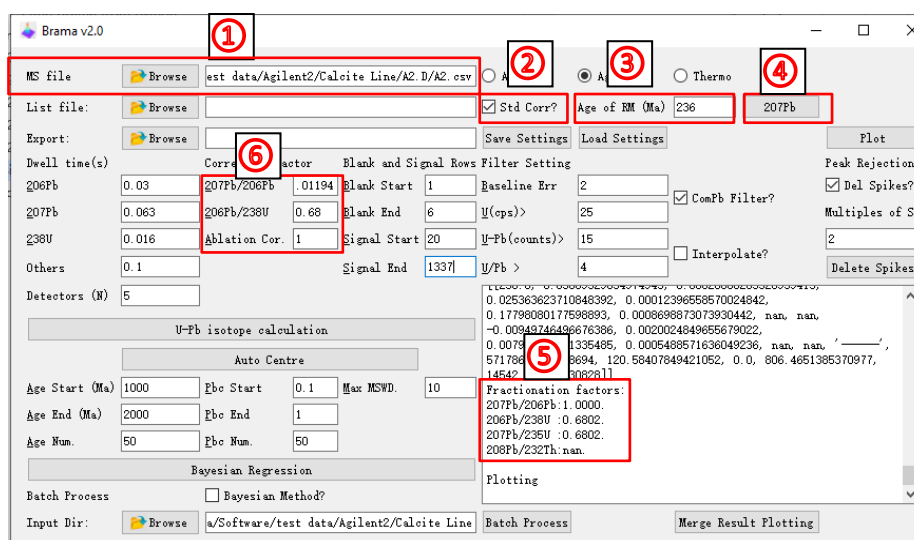

Fig. 1-10 Calculation steps of standard bias fraction factor for $^{206}\text{Pb}/^{238}\text{U}$
$^{206}\text{Pb}/^{238}\text{U}$ fraction factor: As Fig.1-10 shown, ①Import the “A2.scv” (AHX) file according to step 1.3.2. ②Check the **Std Corr?** checkbox, ③enter the age in Age of **RM (Ma)**, and click the ④ **^{207}Pb** button. The result is displayed in ⑤ **Information window**. Fill in the fractionation factor in ⑥ **Correction factor**.